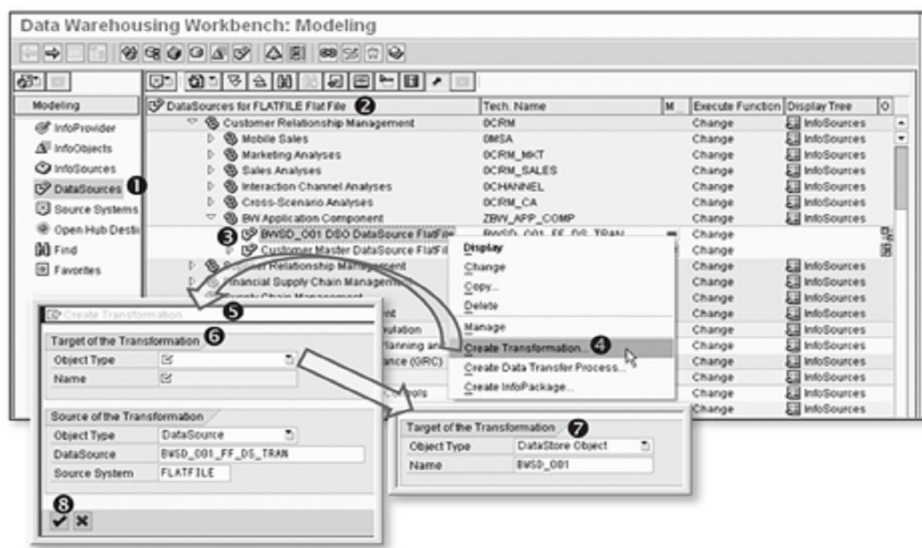

Figure 7.54 Creating a Transformation Between a DataSource and a DSO
From the DWW, select DataSource (❶ of Figure 7.54). Make sure that your DataSource tree is shown for the FLATFILE source system (❷); if it isn't, refer to Figure 7.6 to fix this. Select DataSource BWSD_001_FF_DS_TRAN (❸), and, from the context menu, select Create Transformation (❹). This action results in the Create Transformation screen (❺). The target of the transformation is blank (❻) because we started the process from the DataSource. Input the target of the transformation as shown in ❷, and click the Continue icon (❸).